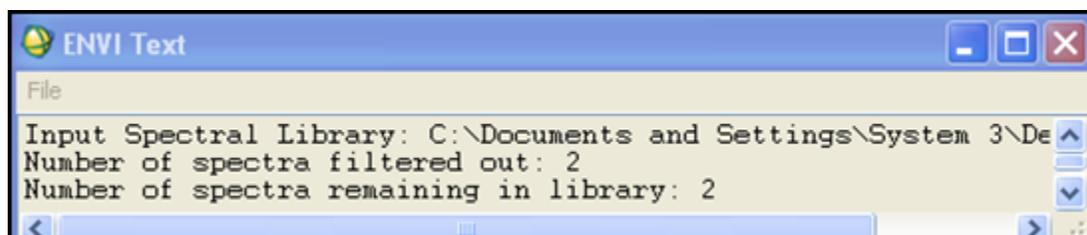

Figure 9.1e. Results of the filtered spectra
- It contains two curves that are already in the input library, but have been deemed undesirable, and are to be removed. Since they match curves in the input library, SAM will not fail to find them. In most cases where you will use the Filter Spectral Library feature, the External Source library of undesired spectra are similar but not identical to the spectra you want to remove. If SAM is able to match any spectra in the External Source with spectra in the Base Library, the matching spectra will be removed from the Base Library. After running the filter, the results are shown (Figure 9.1e).